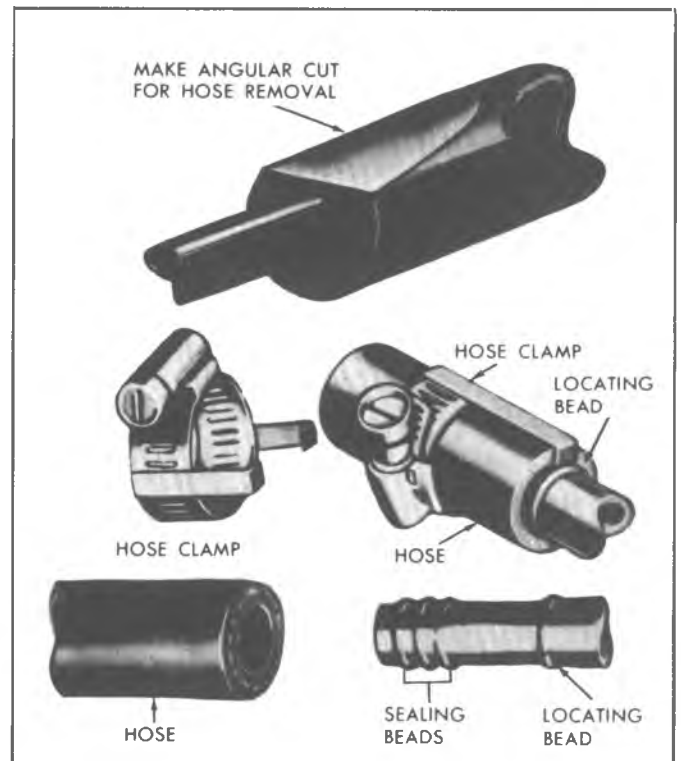

Fig. 56--Hose Clamp Connections
1. Carefully, with a sharp knife, make an angle cut in the hose as shown in Figure 56. This should loosen the hose so that it may be worked off the fitting.